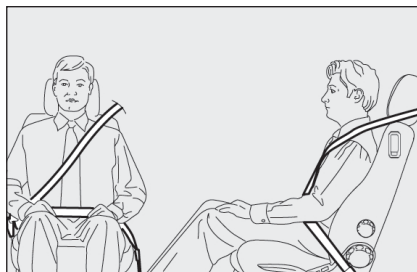

fig. 6
**IMPORTANT** The belt should not be twisted. The upper part should pass over the shoulder and cross the chest diagonally. The lower part should adhere to the pelvis (as shown in **fig. 6**) and not the abdomen of the passenger. Do not use any objects (pegs, stoppers, etc.) to keep the belts away from the body.